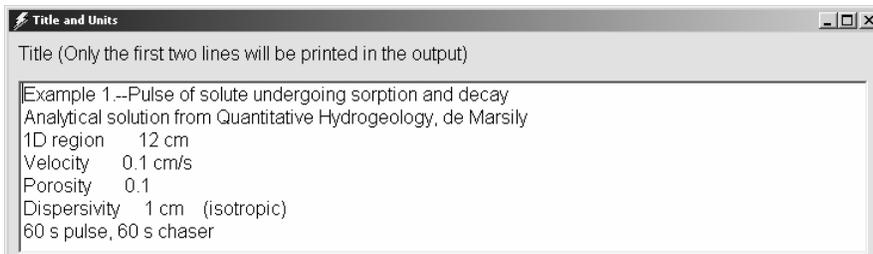

Figure 30. Top section of the **Title and Units** dialog box showing the title for example 1.
- Next, select **PHAST Options|Title and Units...** With ex1.trans.dat in a text editor, copy the title section to the clipboard and paste it into the **Title** section of the **Title and Units** dialog box (fig. 30). The title can be edited to remove the blank spaces, “#” and quote characters at the beginnings of the lines. If desired, a different title of the user’s choice can be specified. The dialog box can be resized so that more of the title is visible. Click **OK** to close the dialog box.